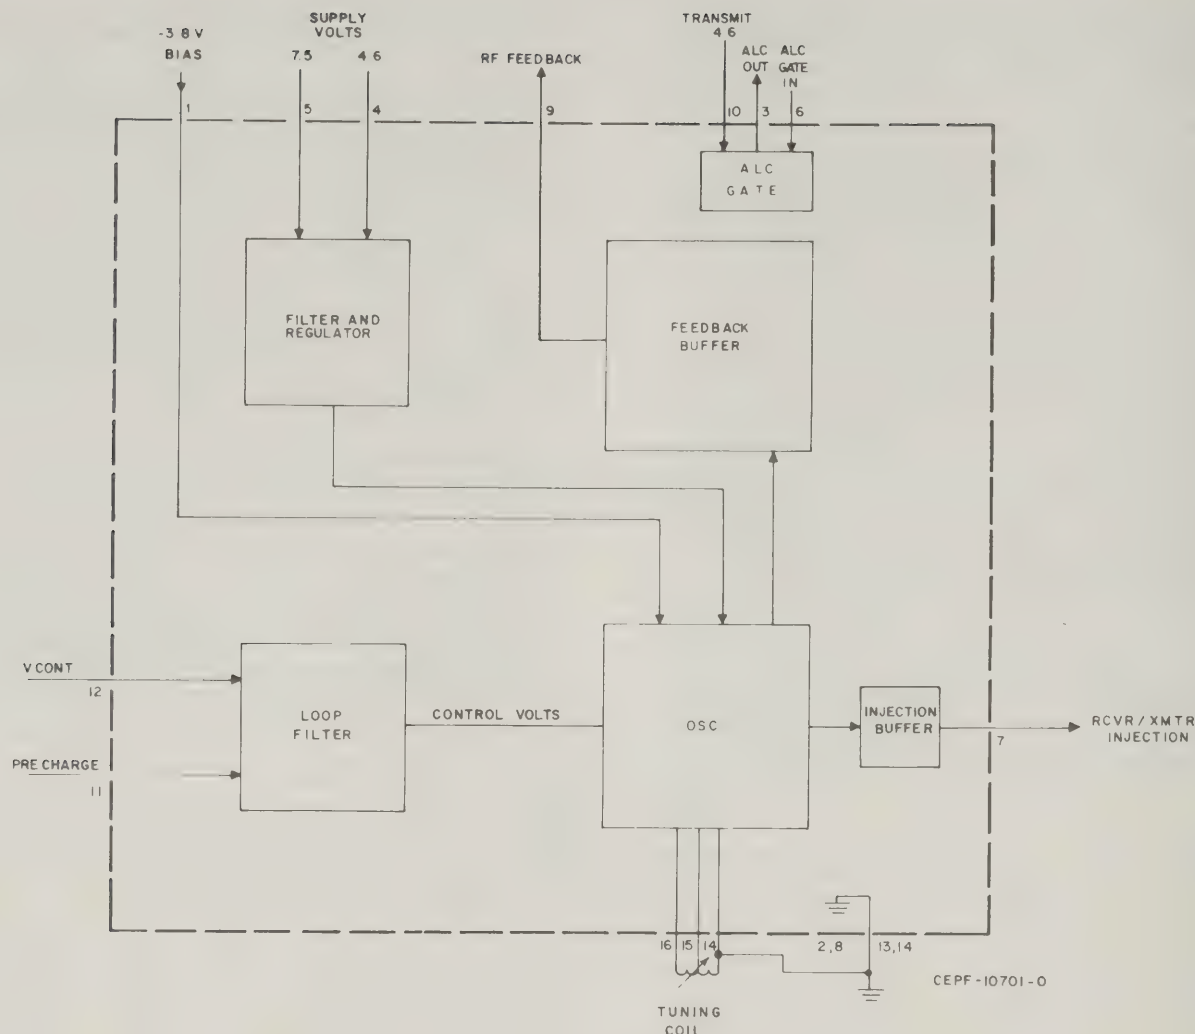

Figure 5. U14; Uhf Synthesizer VCO
b. Uhf Radios (Refer to Figure 5.)